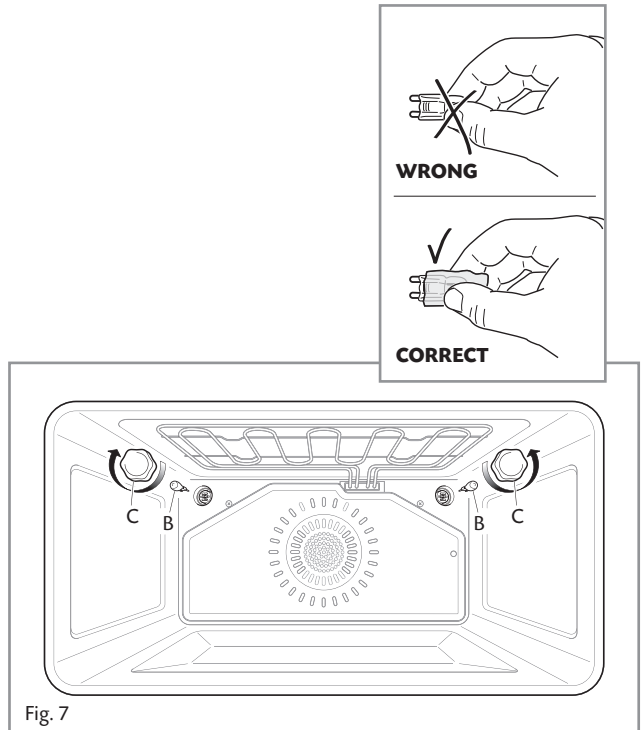

Fig. 7
- Remove the protective cover **C** (fig. 7);